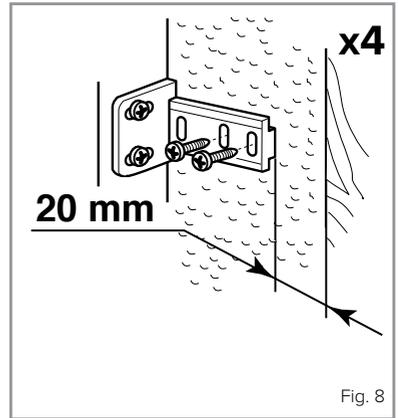

Fig. 8
- Locate the slider in the bracket and fix the slider to the fascia door 20 to 22mm from the edge of the fascia as shown in figure 8, ensuring that the slider is positioned centrally and horizontally within the bracket. Tighten securely by hand.